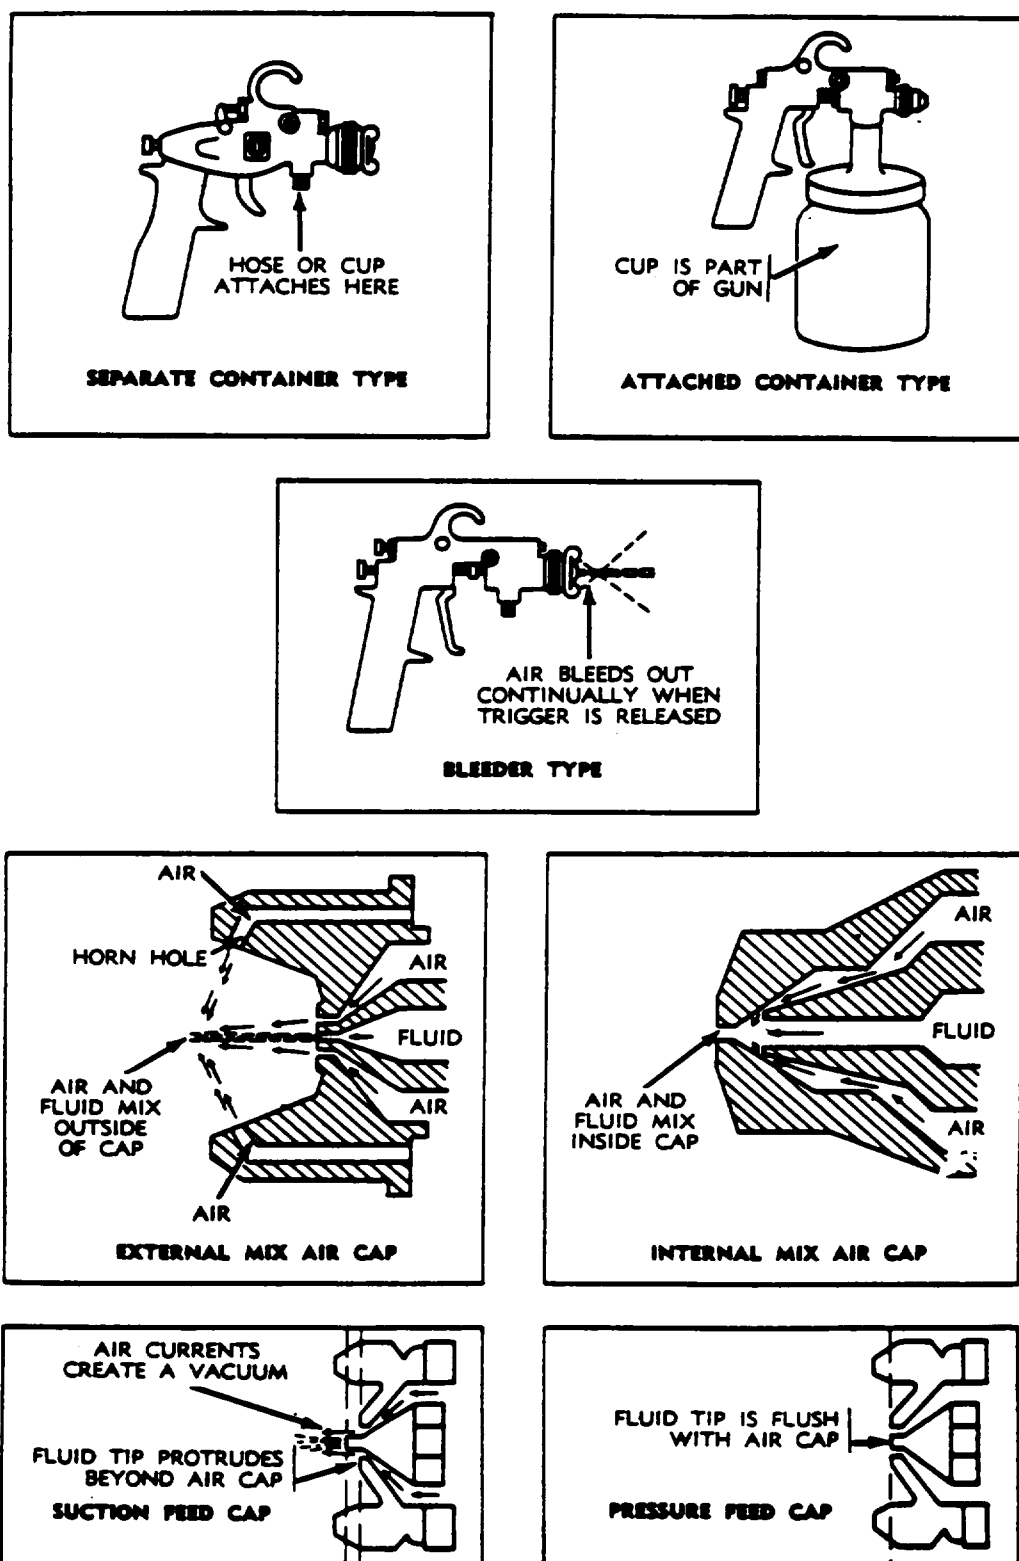

Figure 5-1. Spray Gun Types
a. Definition. A paint spray gun (see figure 5-1) is a mechanical means of bringing compressed air and paint together, atomizing or breaking up the paint stream into a spray, and ejecting it for the purpose of applying a coating.
(1) Bleeder and nonbleeder guns.